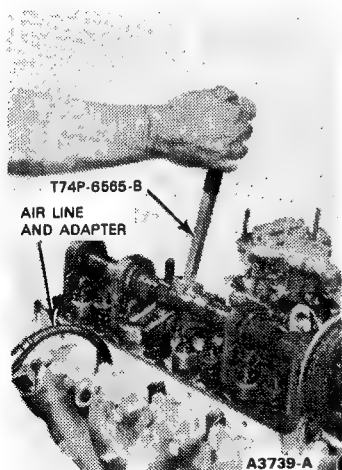

FIG. 33 Removing Valve Spring Retainer
3. With tool T74P-6565-B depress valve spring and remove rocker arm over hydraulic adjuster. (Fig 33).
If the valve or valve seat has not been damaged; valve springs, seals and retainers may be replaced by holding the affected valve against its seat using compressed air. Use the tool shown in Fig. 33 installed in the spark plug hole. A minimum of 140 psi line pressure is required. If air pressure does not hold the valve shut, the valve is damaged or burnt and the cylinder head must be removed and repaired. See Disassembly and Assembly.
3. Using the tool shown in Fig. 33, compress the valve spring and remove the retainer locks, spring retainer, and valve spring. Remove and discard the stem seal.